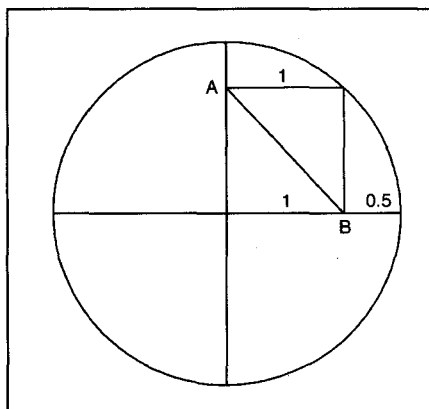

Fig.3: Find the length of line A-B.
*What is the length of line A-B in Fig.3?*